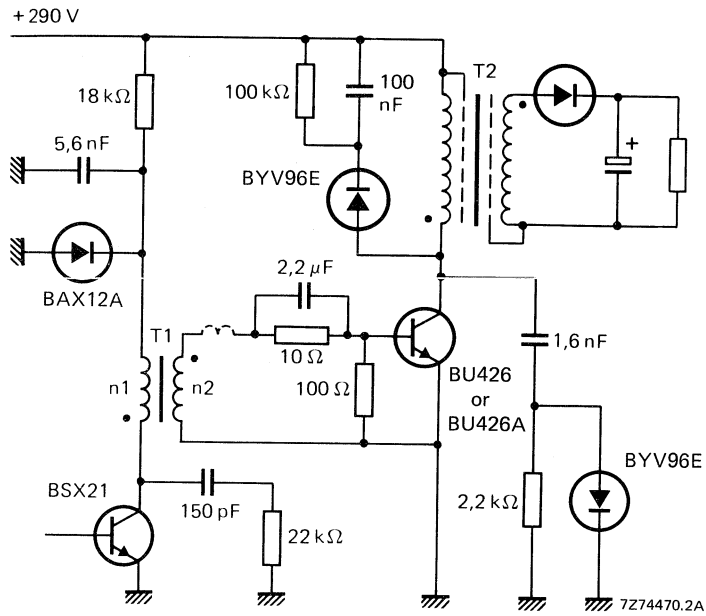

Fig. 17 Practical output circuit of a flyback SMPS of BU426 or BU426A.
All these variables influence the collector dissipation, so that a simple presentation of the design information is only possible if the information is restricted to the main application area of the relevant transistor type. Therefore, as the BU426 or BU426A will mainly be used in flyback converters and the BU433 in forward SMPS, the information of Figs 17 up to 22 is based on these applications:
To ensure thermal stability minimum value of T_{amb} in this equation is 40 °C. As indicated, the BU433 will mainly be used in (non-isolated) forward converters, where the turn-off losses are limited by the maximum collector emitter voltage ($\approx 300-350$ V). The rate-of-rise of the voltage during turn-off must be below 1000 V/ μ s. Application of this transistor in low-power flyback converters is also possible, provided that the rate-of-rise is limited to 500 V/ μ s. For the BU426(A) a rate-of-rise of 1000 V/ μ s is permissible. Practical SMPS output circuits for an output power in the order of 180 W are given in Figs 17 and 20. At a collector current of 2,5 A and a base current of 0,25 A in these circuits the following turn-off times can be expected.